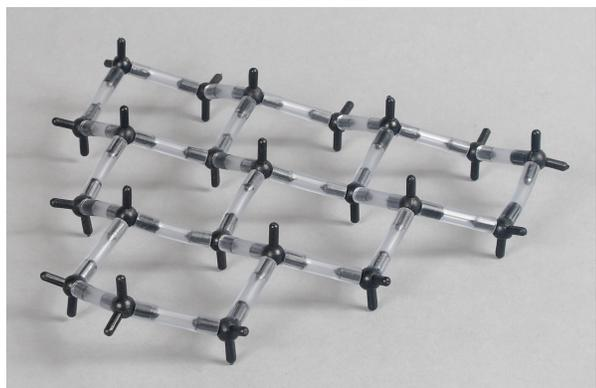

Fig. 3 Six hexagons.
- Continue to the edge closest to you so that you end up with a total of six hexagons. (Fig. 3).